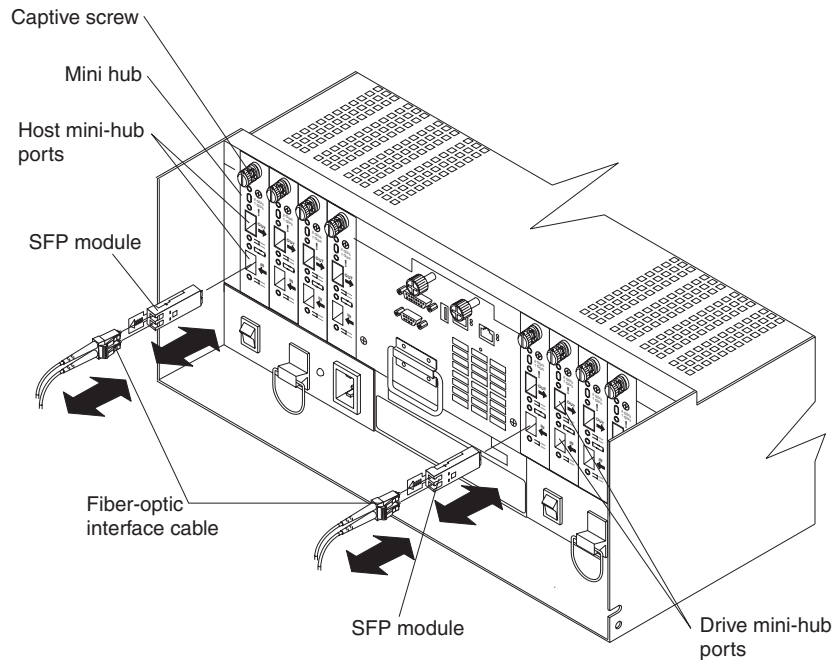

Figure 49. Removing the fiber-optic cable from the SFP module
1. On the mini hub that has failed, remove the fiber-optic cables from the SFP modules, as shown in Figure 49 on page 57.